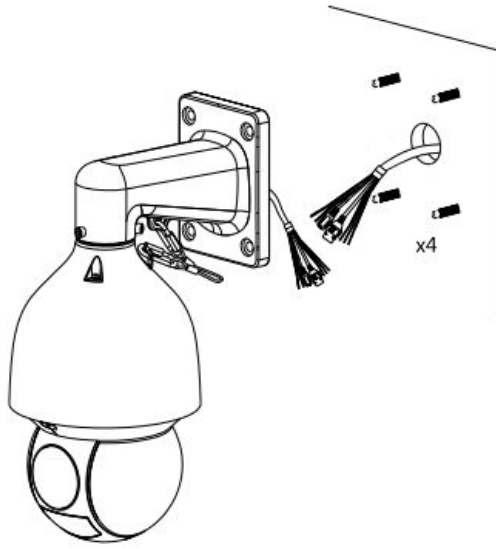

Figure 2-5
**Step 1** Connect PTZ interface cables to the wall cables. Make sure both are waterproofed properly. See Figure 2-5.